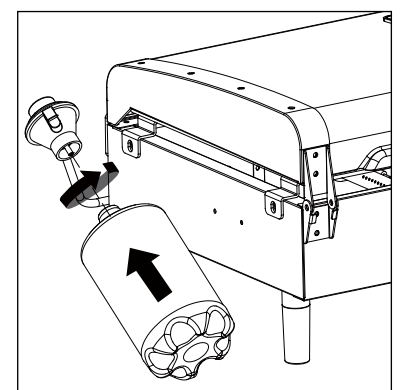

Figure 5
2. Rotate LP gas tank counterclockwise until it is detached (Figure 5).